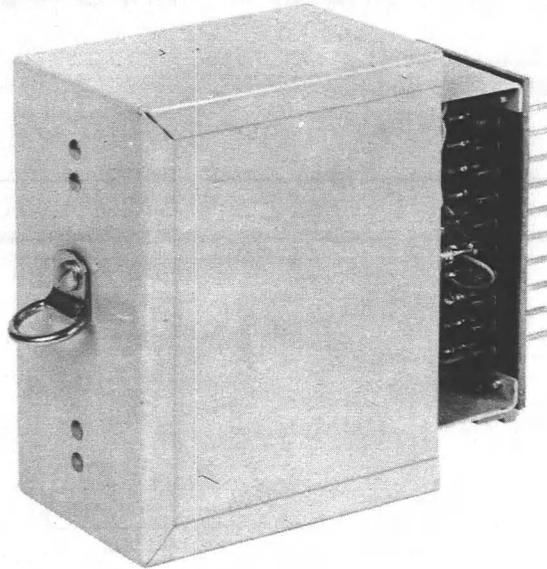
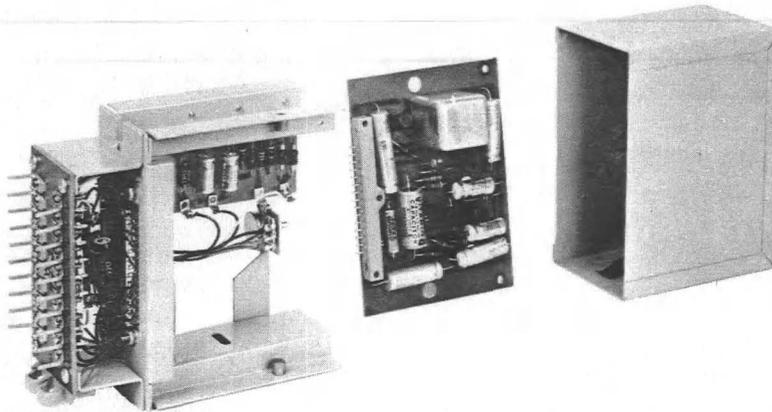

Fig. 1 - View of Amplifier Assembled in Cover
Fig. 2 - View of L1 and L3 Amplifiers with Cover Removed
1.07 Figs. 1 and 2 show the assembled and unassembled amplifiers. All units appear the same in the mounting case and mount in the same manner. Fig. 2 shows the KS-16728, L1 Amplifier (printed circuit board) and the compression circuit.